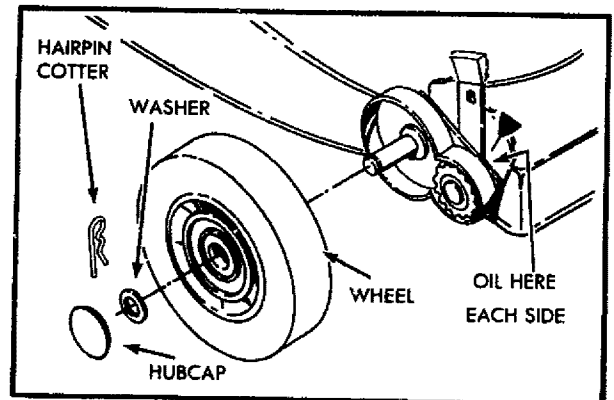

FIG. 26
FRONT WHEEL ADJUSTERS: Put a few drops of the same oil as used in the engine on the front wheel adjusters once or twice each year (See Fig. 26).
2. If necessary to clean the drive wheels (See Fig. 26) check both front wheels.